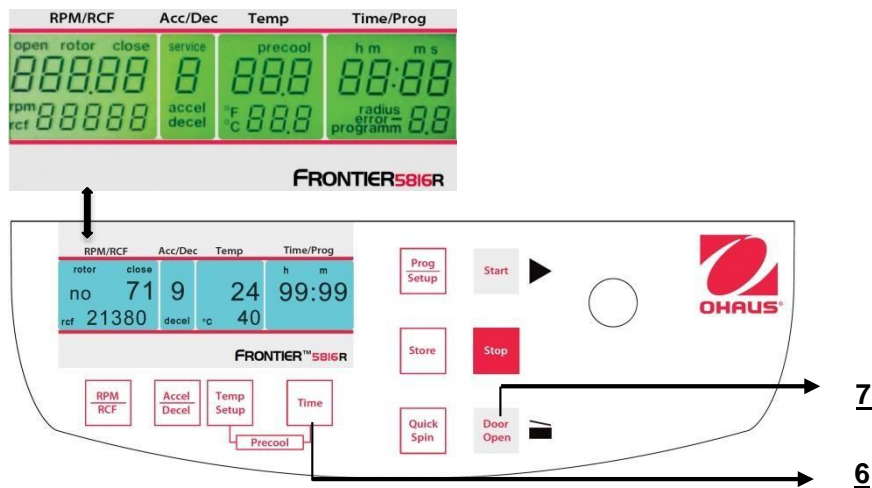

Figure. 32
While the centrifuge is turned off, press simultaneously the keys "**Time**"(6) and "**Door Open**" (7) and turn on the main switch of the centrifuge. Now release both keys and as a result a display test is executed for approx. 5 seconds. All indicators will appear at the same time (See figure 32).
Proceed as described under point 4.1.1 to enter this program mode and then press the key **"Accel/Decel"** (5). In the display **"Acc/Dec"** (A-2) the word **"Service"** flashes. Now select the letter **"L"** with the adjusting knob (1). As a result, the words **"On Sound"** appears in the display **"RPM | RCF"** (4). If you press the key **"RPM | RCF"** (4) now, the word **"On"** flashes and you can switch off the sound with the adjusting knob (1) (See figure 32).